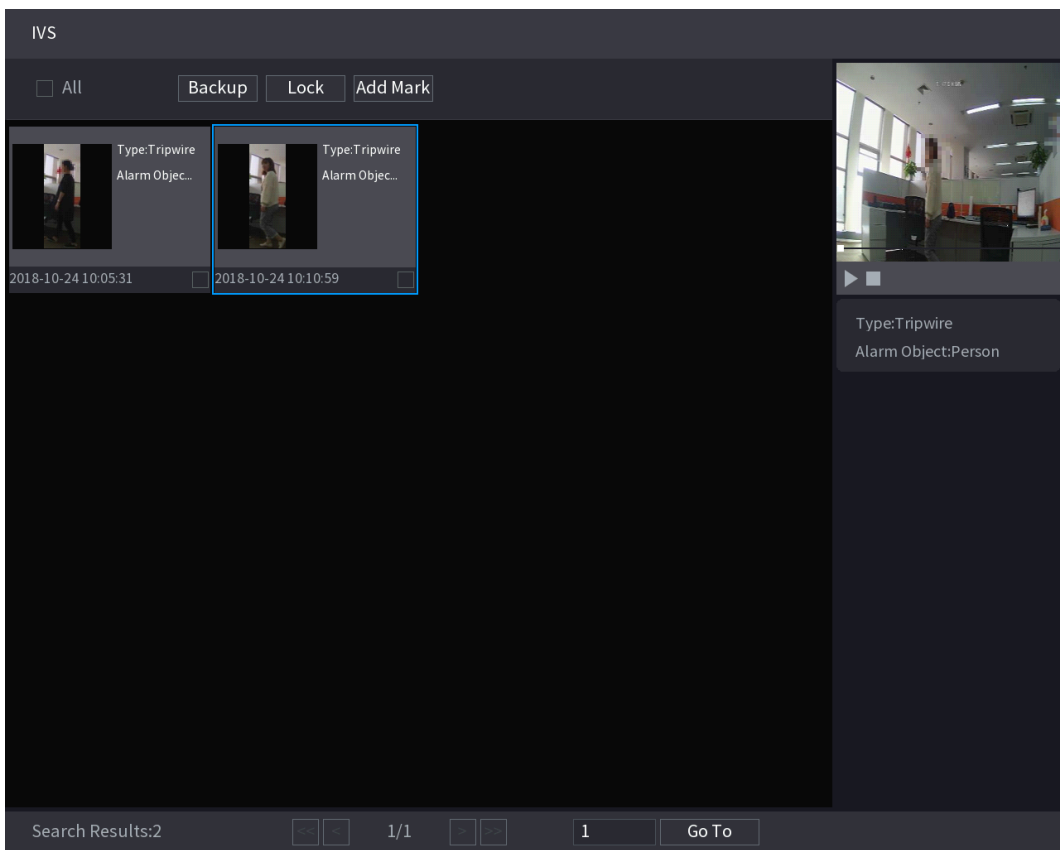

Figure 5-173
Step 4 Click the picture that you want to play back. See Figure 5-173.